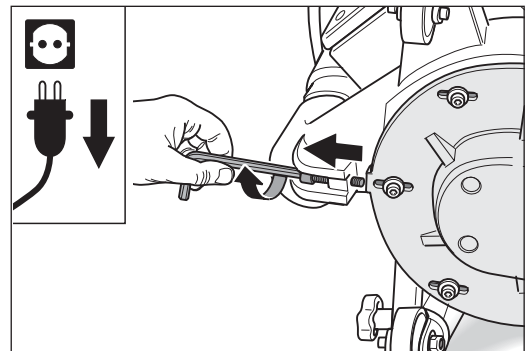

Fig. 63 Unscrew the belt-tensioning screw all the way out.
- 4 To relieve the V-belt tension, use the proper Allen key to unscrew the belt-tensioning screw all the way out until this screw disappears on the front side in the threaded hole of the fan housing (Fig. 63).